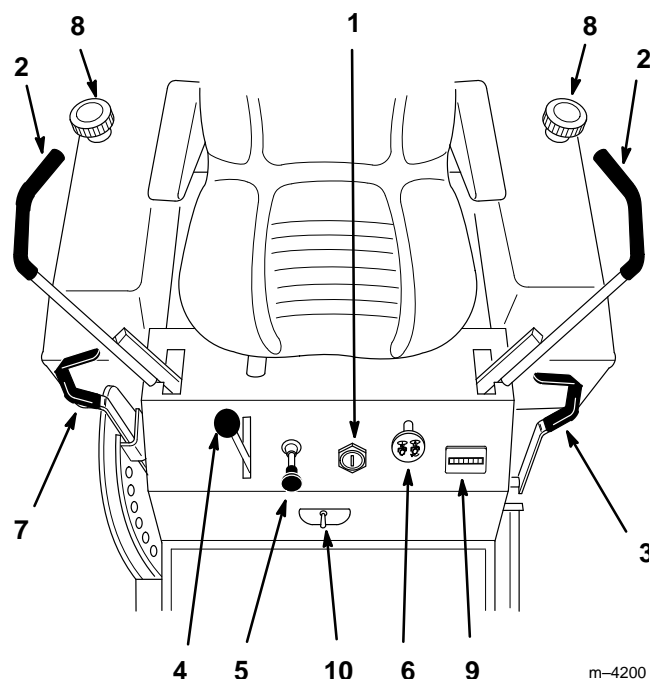

Figure 1
Become familiar with all the controls (Fig. 1) before you start the engine and operate the machine.
1. Move the motion control levers (Fig. 1) out to the neutral lock position.